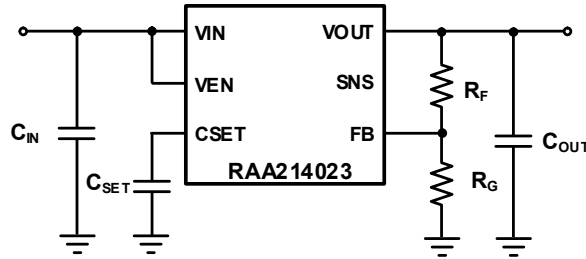

Figure 125. RAA214023 Simplified Application Schematic
The RAA214023 output voltage ( $V_{OUT}$ ) can be programmed down to 0.8V and up to  $5.5V - V_{DO}$  using the feedback (FB) resistors,  $R_F$  and  $R_G$ , as shown in Figure 125.